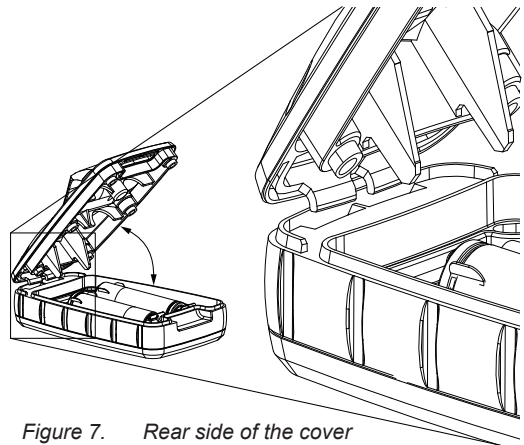

Figure 7. Rear side of the cover inserted in its position
2. Carefully remove the cover by lifting up the front of the cover (see fig. 7).